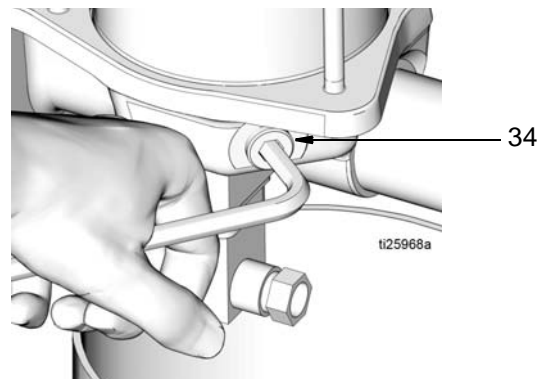

FIG. 13
7. Use a hex wrench to slowly loosen and remove drain plug (34) from the pump base and drain oil from the pump (FIG. 13).